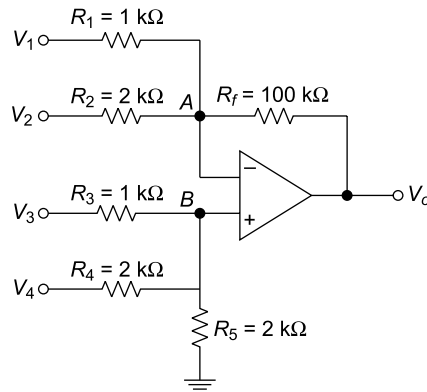

Fig. 5.25 Circuit of Ex. 5.14
5.14 Figure 5.25 shows an operational amplifier circuit. Determine the output voltage V_o .